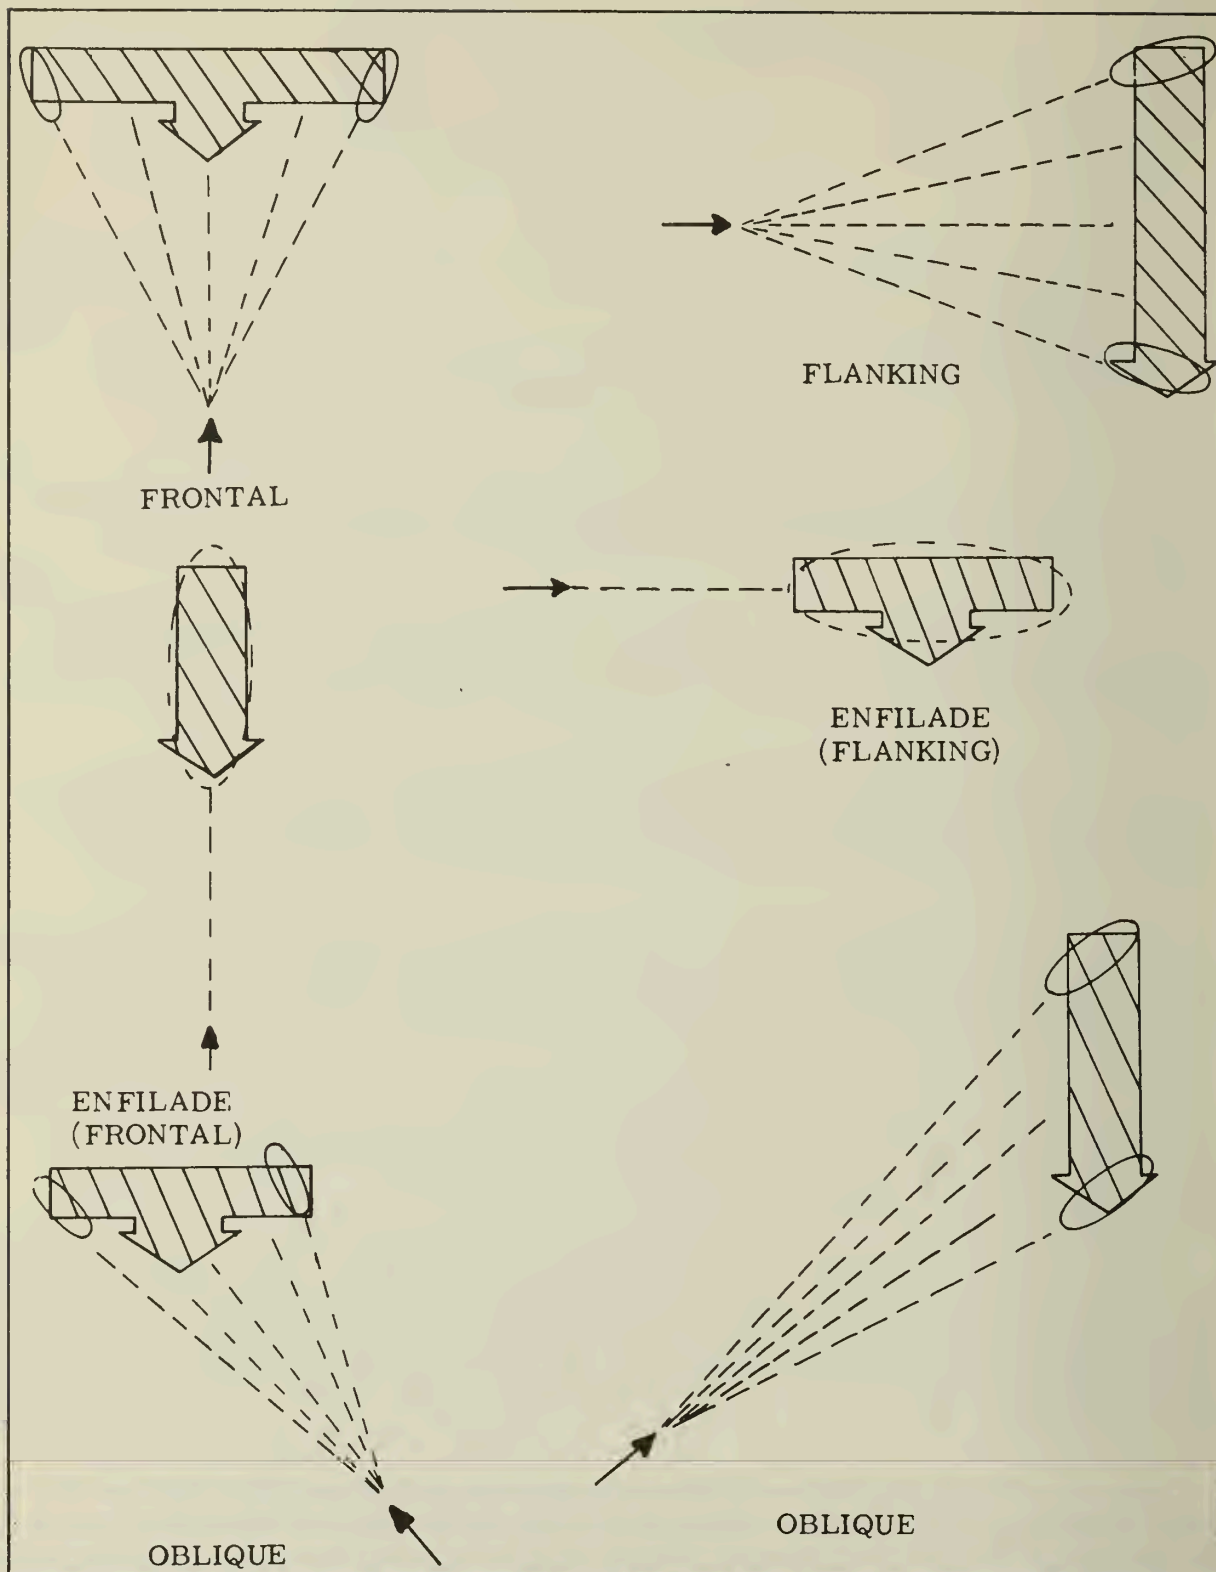

Figure 107. --Classes of Fire With Respect to the Target.
c. Fire With Respect to the Target. --There are four classes of fire with respect to the target. (See fig. 107.)
(1) Frontal Fire. --Frontal fire is fire delivered at a right angle to the front of the target.
(2) Flanking Fire. --Flanking fire is fire delivered against the flank of a target.
(3) Oblique Fire. --Oblique fire is fire obtained when the long axis of the beaten zone is at an oblique angle to the long axis of the target.
(4) Enfilade Fire. --Enfilade fire is fire obtained when the long axis of the beaten zone coincides with the long axis of the target.